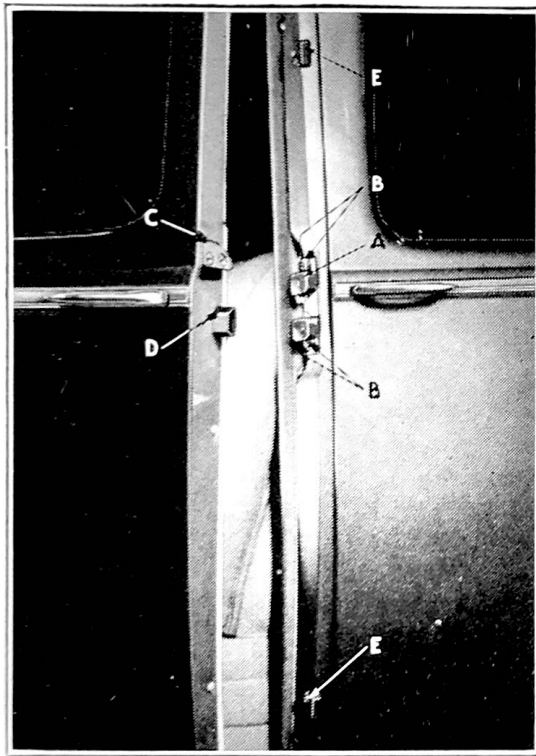

Figure 56
The door striker assembly (A), Fig. 56, is attached to the pillar post by means of four screws, permitting of a considerable range of adjustment both up and down and sideways to provide easy, quiet closing of the door. The dovetail (C) attached to the door is non-adjustable and rides over the top of the striker assembly to prevent up and down movement of the door.